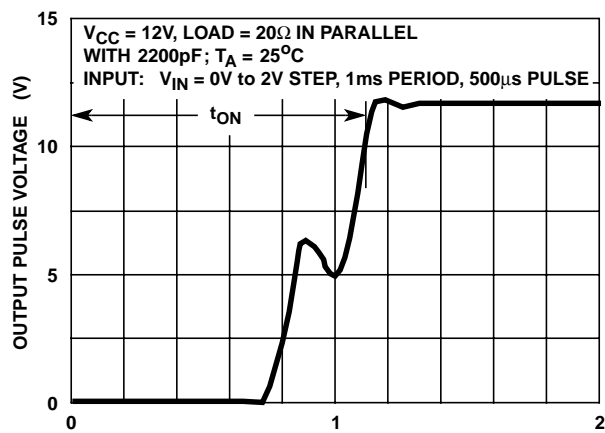

FIGURE 3A. OUTPUT TURN-ON TIME (µs)
5. Refer to Figures 3A and 3B for typical switching speeds with a 20 Ω Load.